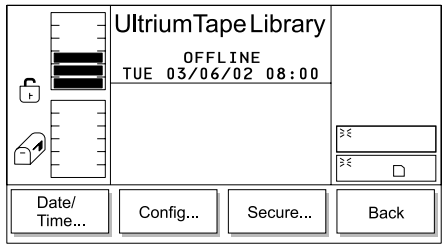

Figure 249. Utils Submenu
3. Press the button below the **Utils** softkey. The Utils Dialog displays (see Figure 249 on page 186).